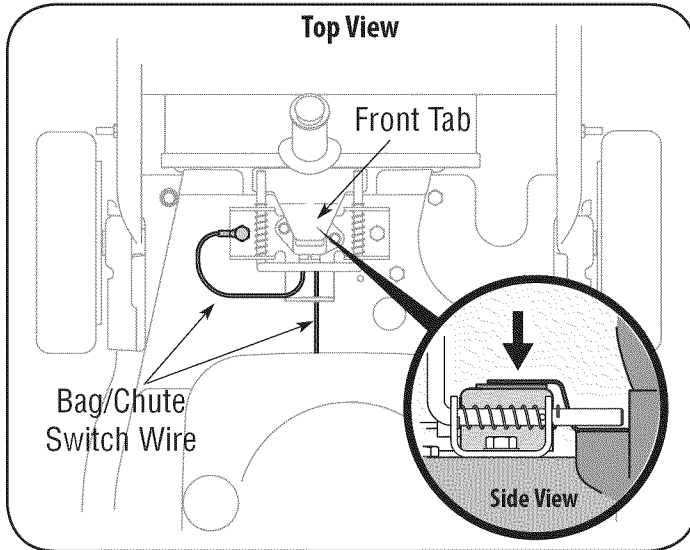

Figure 11
1. The bag/chute switch button must be fully depressed by the tip of front tab on bag handle or blower chute for engine to start. See Figure 11.
2. Make sure bag/chute switch wire is connected to engine and grounded to mounting bracket. See Figure 11.